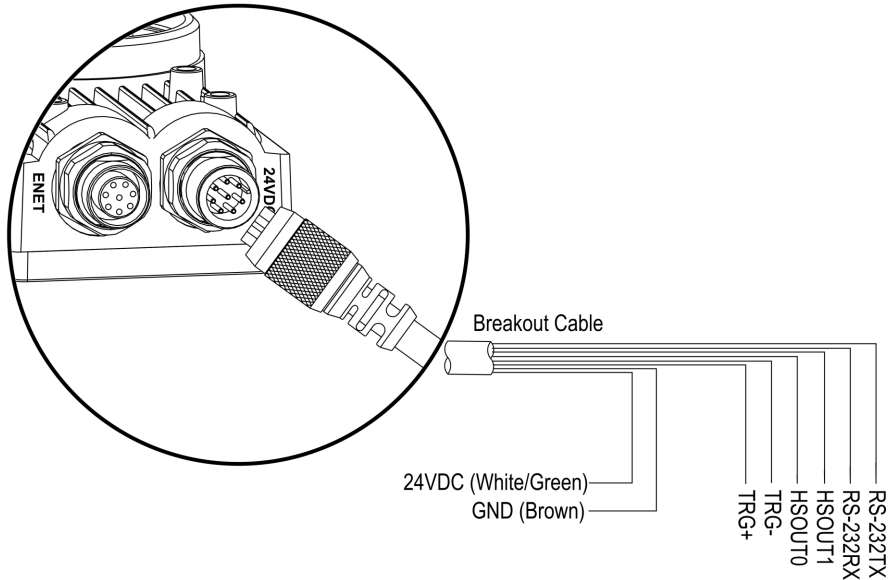

Figure 3-4: Power Connections
3. Verify that the 24VDC supply is not receiving power, then connect the power supply to the Breakout cable (Figure 3-4). Attach the Breakout cable to the 24VDC connector on the sensor.